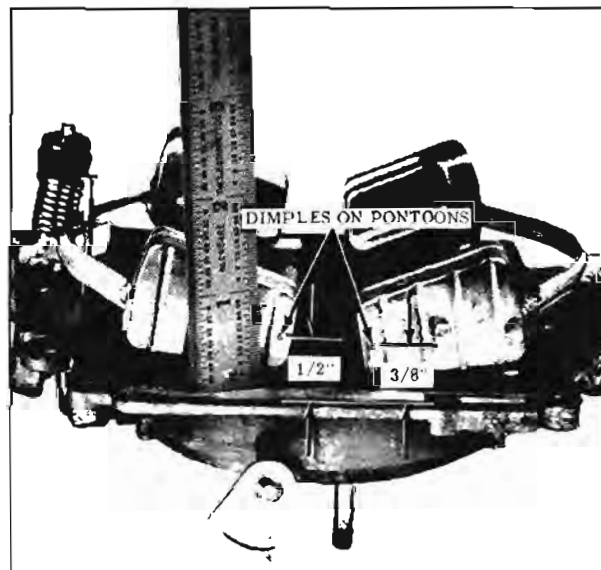

Fig. 9-183 Checking Primary Float Level
1. With gasket in place and the air horn inverted, position gauge BT-6310 as shown in Fig. 9-183.